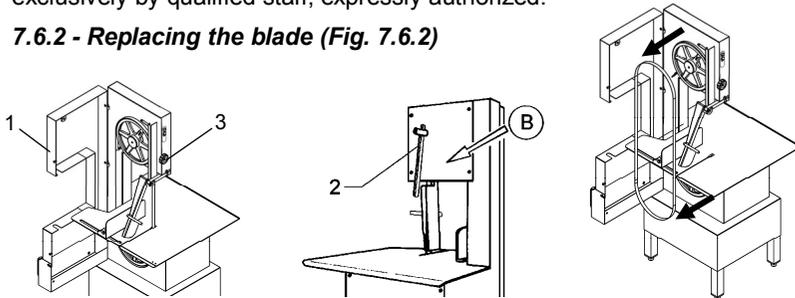

Fig. 7.6.2
**7.6.2 - Replacing the blade (Fig. 7.6.2)**
- Release knob "2" as indicated in fig. 7.6.2 arrow "B".